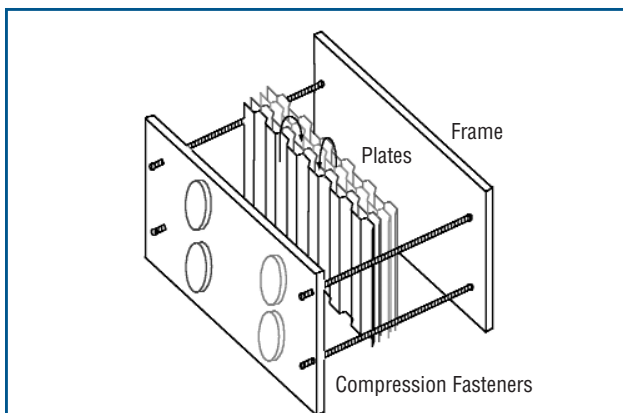

Figure 10. Components of a Plate and Frame Heat Exchanger
**Plate and Frame Heat Exchanger.** In plate and frame heat exchangers, the two heat exchange fluids are separated by plates. The plates are corrugated, or ridged, as shown in Figure 10, to increase the surface area available for heat transfer. Plate and frame heat exchangers are often used in low-viscosity applications, where the risk of clogging is less severe. The plate ends are typically sealed by gasketed covers that can be removed to allow disassembly and cleaning. This heat exchanger type is used when temperatures and pressures are moderately low, typically below 300°F and 370 psi. Plate and frame heat exchangers also have a common design variation that has the plates welded or brazed together. This allows higher temperature service but eliminates the possibility of mechanical cleaning.